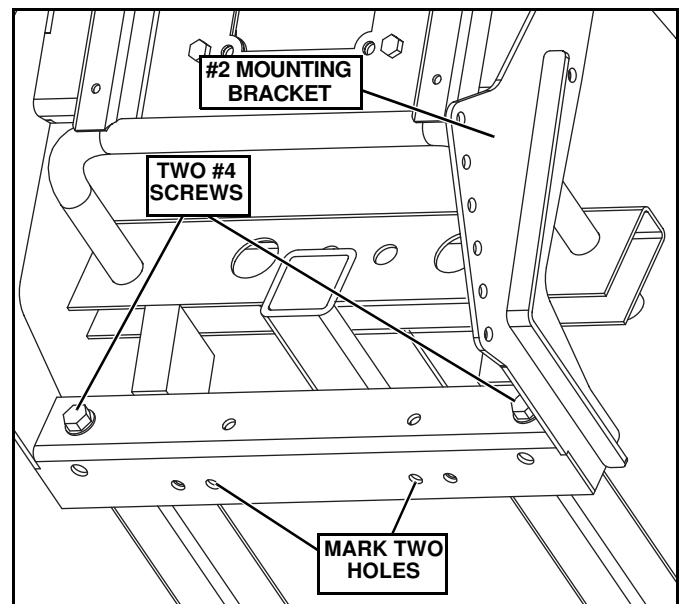

Figure 7
- Mark the location of two inside holes on the bottom of the Mounting Bracket (#2) onto the frame of the vehicle. (See Figure 7.) Remove 7/16" x 1-1/2" Hex Head Cap Screws (#4) and (2) 7/16" Lock Nuts (#6) and remove Mounting Bracket (#2).